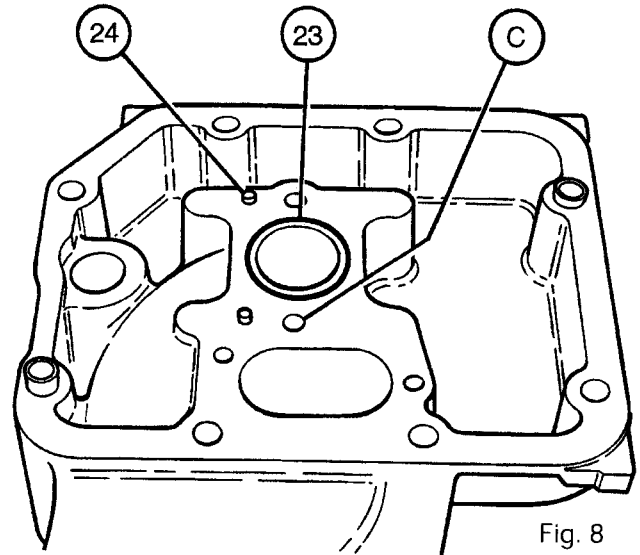

Fig. 8
20. Check that the two locating pins (24) are in place (Fig. 8).
21. Apply a bead C of Loctite 574 or equivalent around the two bolts holes inside the cover (Fig. 8). The diameter of this bead must be small so that it does not reach the groove for seal (23). Fit a new seal.
23. Fit the bolts (22) smeared with Loctite 241 or equivalent and tighten them to a torque of 40 to 50 Nm.